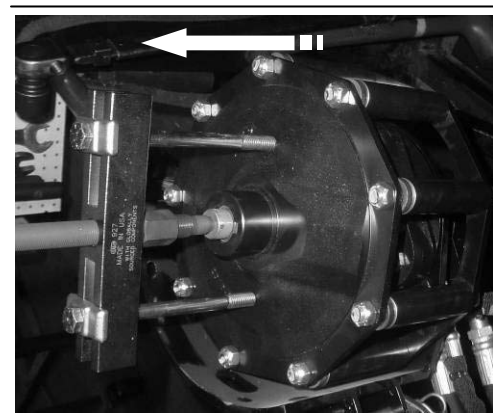

Figure 12-36
3. Operate the puller by tightening the push bolt with a wrench until the sprocket is pulled off the drive motor shaft as shown in figure 12-36. Remove sprocket and inspect sprocket rollers for wear. If replacement is needed, refer to Sprocket roller removal on page 12-8 of this chapter.